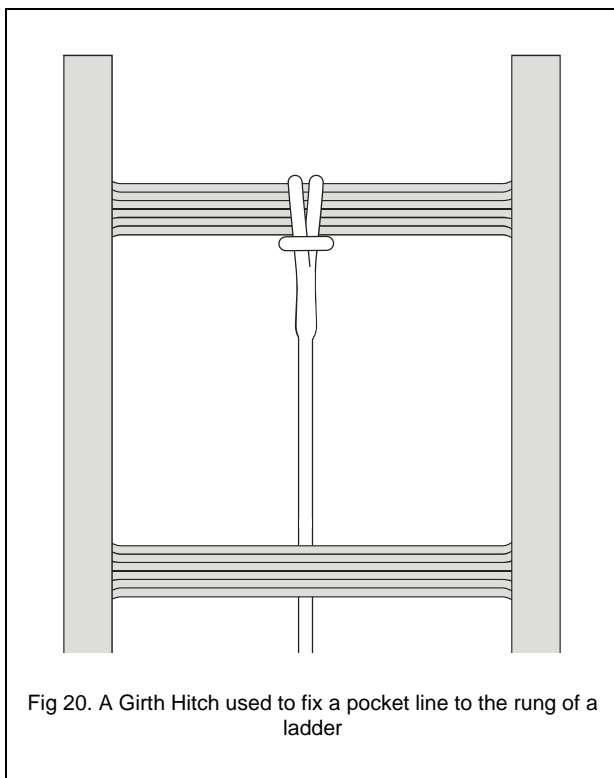

Fig 20. A Girth Hitch used to fix a pocket line to the rung of a ladder
- Can be used to fix the spliced eye in a pocket line to an object. Example: starting a ladder lashing operation. (*fig 20*)